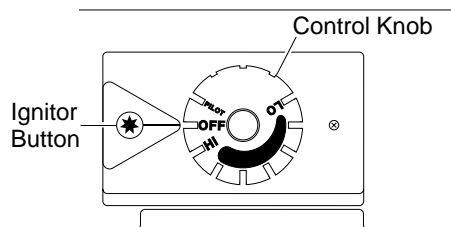

Figure 22 - Control Knob In The OFF Position
4. Wait five (5) minutes to clear out any gas. Then smell for gas, including near the floor. If you smell gas, **STOP!** Follow "B" in the safety information at the top of column 1. If you don't smell gas, go to the next step.
5. Turn control knob counterclockwise to the PILOT position. Press in control knob for five (5) seconds (see Figure 22).